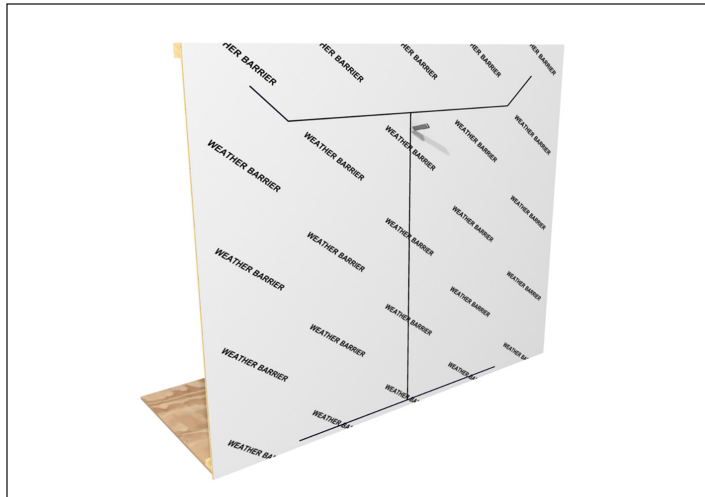

Figure 4
1. When trimming away the air barrier at openings, first cut horizontally across the entire width of the rough opening at the head jamb and sill. Then cut vertically in the center of the opening from sill to head jamb. Finally cut the head jamb corners diagonally away from the opening. The complete cut should be in a "I" fashion. DO NOT cut air barrier diagonally from corner to corner in an "X" fashion. See Figure 4.